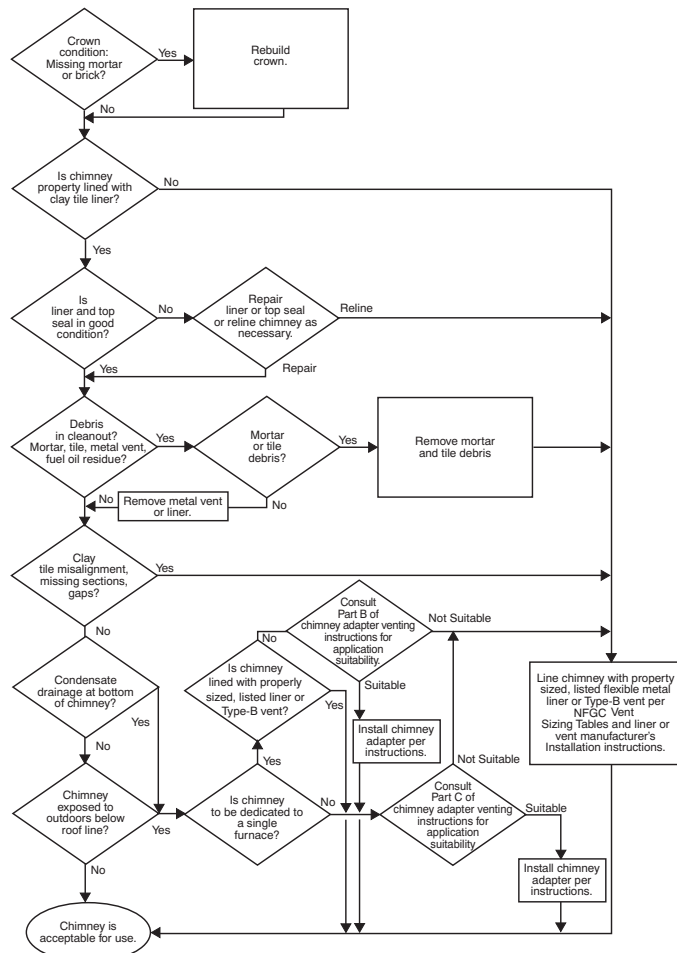

Fig. 33 – Chimney Inspection Chart
7. Do not vent this appliance into an unlined masonry chimney. (Refer to Chimney Inspection Chart, Fig. 33.)
Inspections before the sale and at the time of installation will determine the acceptability of the chimney or the need for repair and/or (re)lining. Refer to Fig. 33 to perform a chimney inspection. If the inspection of a previously used tile-lined chimney: